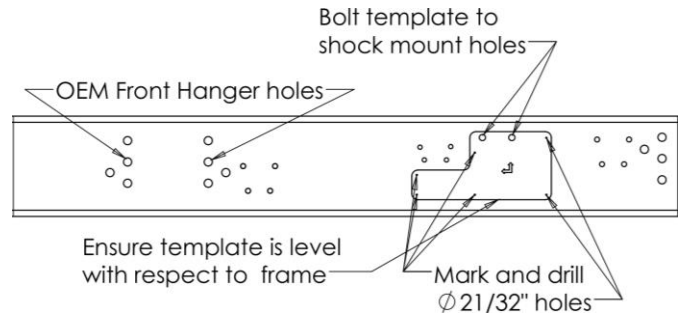

Figure 6. Template 10811-024 Location
12. For a 10811-024, align the template with the two OEM shock mount holes. Ensure that the arrows are pointing up and towards the front of the vehicle, as shown in Figure 6.